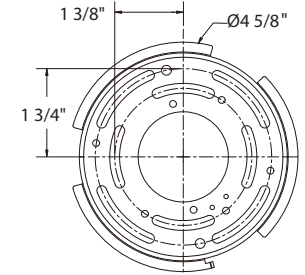

Fig. 2 Wiring
WIRING AND HANGING FIXTURE (Fig. 1, Fig. 2, Fig. 4, Fig. 5)
12. Connect the driver's input wires to junction box wires as shown in Fig. 2, making sure that all wire connectors (A) are secured. If your outlet box has a green or bare copper grounding wire, connect the fixture's grounding wire to it. After wires are connected, tuck them carefully inside the junction box.
13. Lift and mount the canopy against the mounting plate. Rotate the canopy in the direction of the arrow until it stops. Fasten the canopy in place using the mounting screw (B).